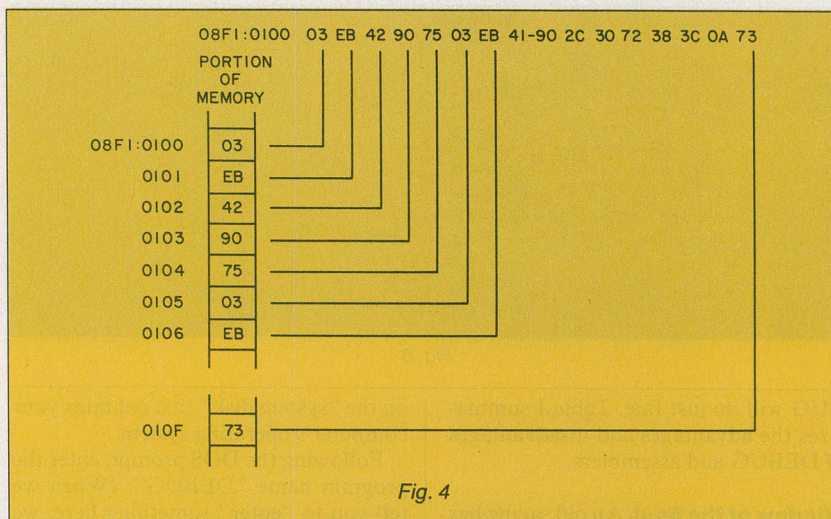

Fig. 4
**Addresses.** The numbers in the column at the left of Figs. 2 and 3 (like 08F1:0120) are the *memory addresses* of the bytes of data displayed. Each byte shown in the dumps occupies a specific address, as illustrated in Fig. 4.